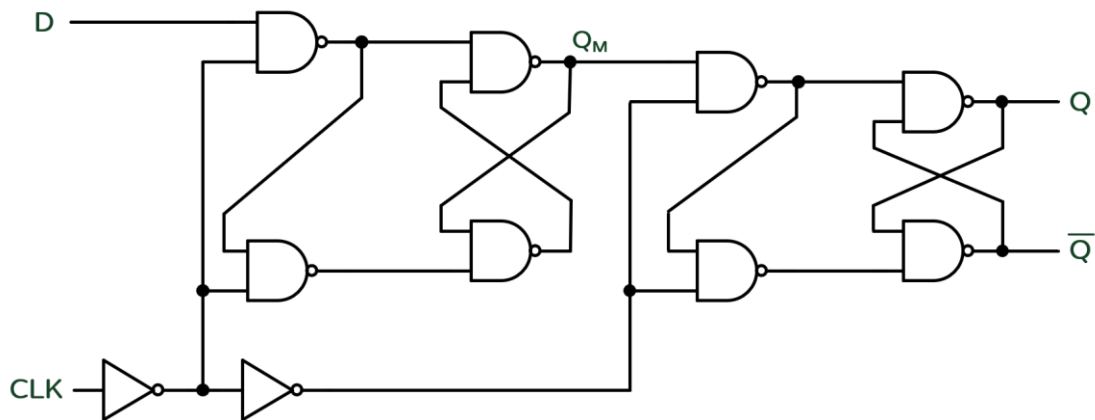

Fig. 1. NAND-based positive-ET DFF
1. (47%) One type of circuit implementation of positive-edge-triggered D flip-flops (positive-ET DFFs) is based on NAND gates, as shown in Fig. 1.
- (f-2). **For rising input (D)**, **screenshot** the HSPICE code of voltage sources in your .sp file. (0.5%)
- (f-6). Compare setup time between rising input and falling input. Which one has larger setup time? Why? It's better to explain with the circuit in Fig. 1. (1%)
- (g-2). **For rising input (D)**, **screenshot** the HSPICE code of voltage sources in your .sp file. (0.5%)